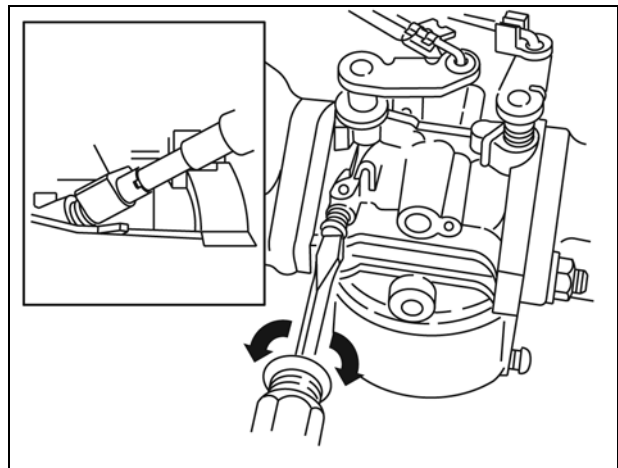

Figure 25
- Turn idle mixture screw (A, Figure 25) to mid point between rich and lean.